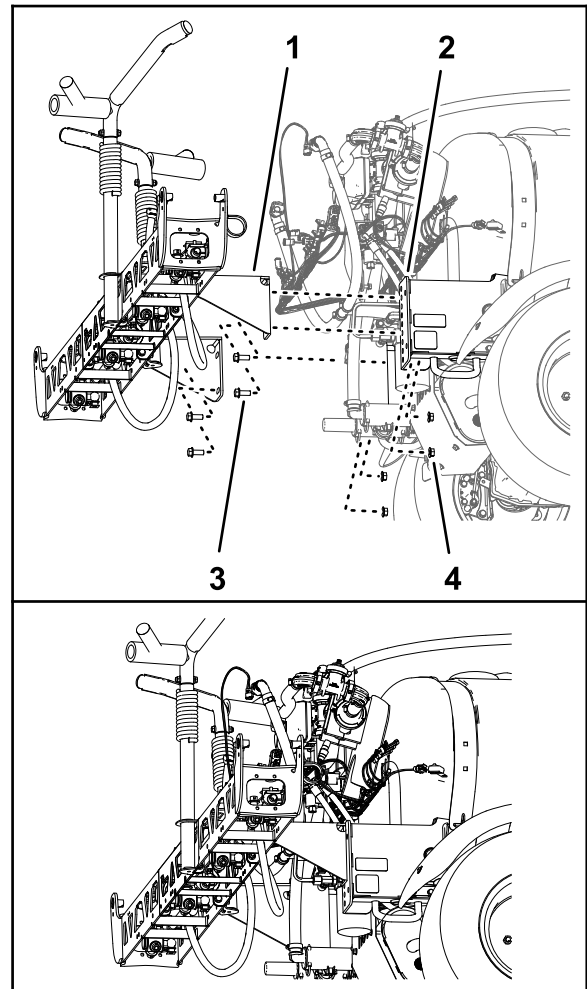

Figure 93
1. Using lifting equipment with the specified lift capacity, raise the center-spray section and align the holes in the support bracket for the spray section (Figure 93) with the holes in the mounting plate for the frame of the machine that you identified in step 3 of Removing the Center-Spray Section (page 22).
2. Assemble the center-spray section to the mounting channels (Figure 93) with the 4 flange-head bolt (1/2 x 1-1/4 inches) and 4 flange locknut (1/2 inch) that you removed in step 4 in Removing the Center-Spray Section (page 22).